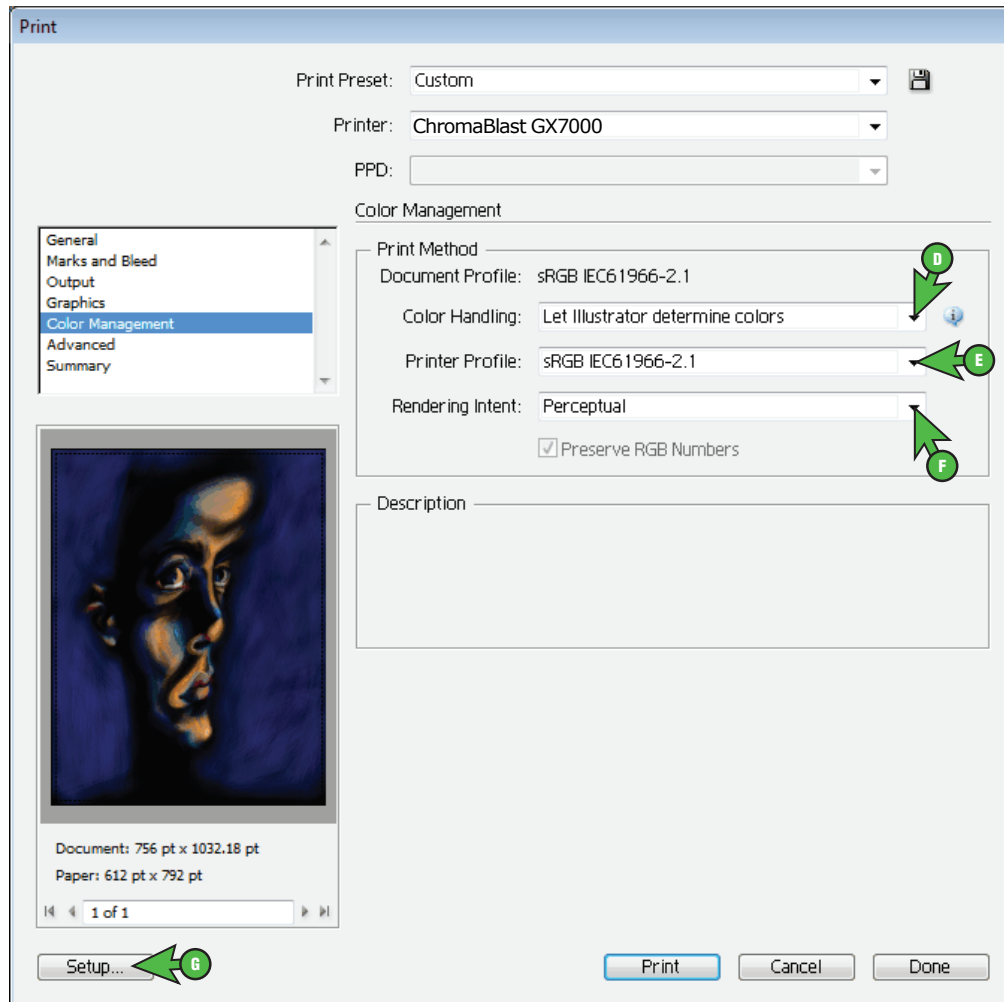

FIGURE 7
- C. Once your settings match, click **Color Management**. This opens the Color Management Screen (see FIGURE 7)